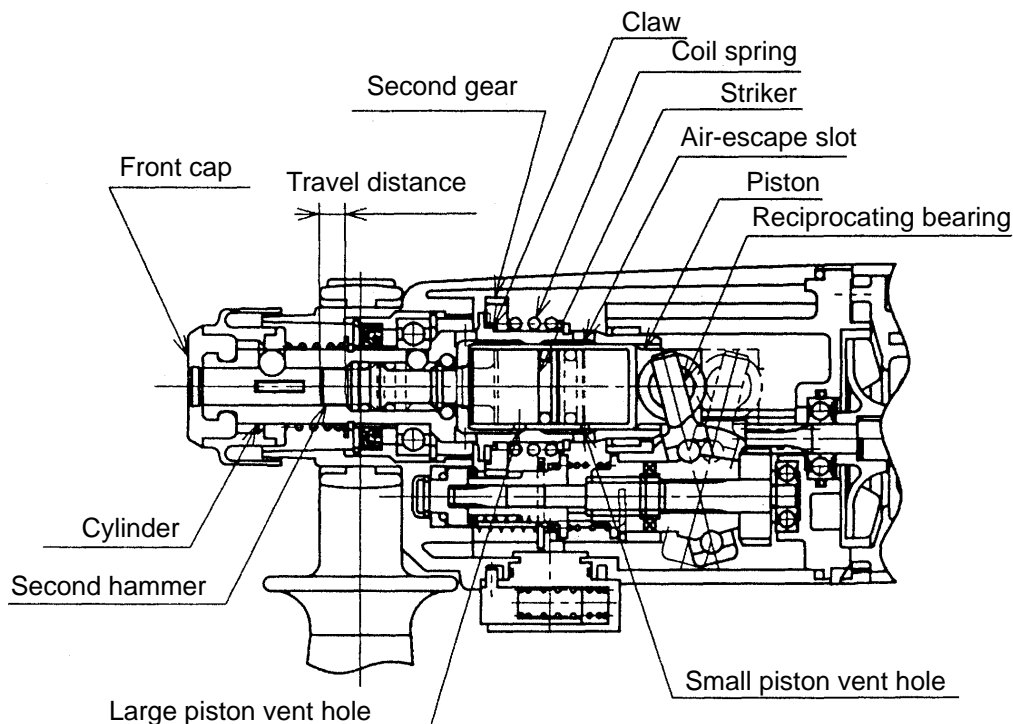

Fig. 4
The idle striking prevention mechanism in the Model DH 24PE (S) is different from that of conventional hammer drills. When the drill bit is lifted from the work surface on completion of drilling, the second hammer moves to the position indicated by the continuous lines in Fig. 4 and the protruding (lip) portion at the tip of the striker is gripped by the O-ring mounted on the inner wall of the cylinder. In this state, should the piston continue to move so that the small piston vent hole is blocked by the inner wall of the cylinder, the air in the air chamber will pass through the large piston vent hole and be released through the air-escape slot and large cylinder vent hole provided on the inner wall of the cylinder. Accordingly, there is no change in the air pressure within the air chamber, and movement of the striker (idle striking operation) is prevented. The gripping force of the O-ring on the striker is so small in comparison with the conventional mount system that practically no pressing force at all is required to restart the striking operation.